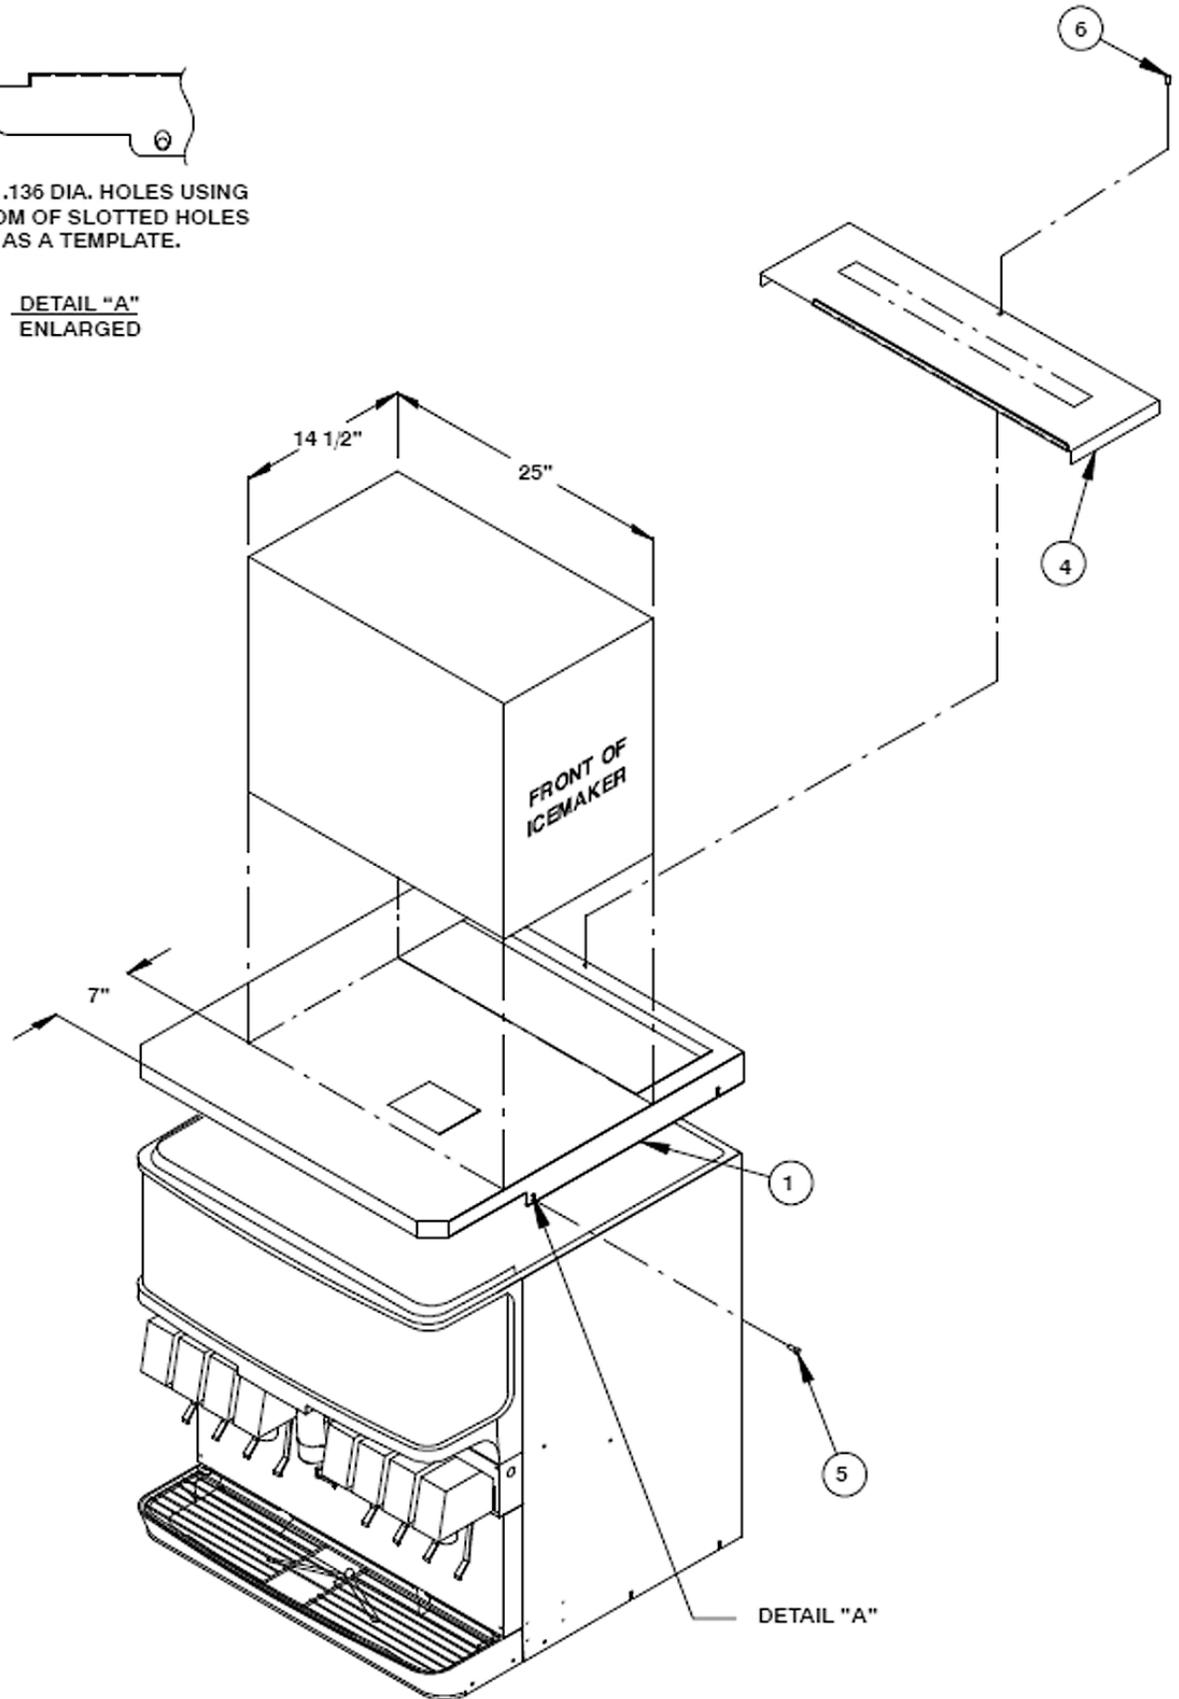

Figure 1.
5. Place the lid assembly supplied with the kit on top of the dispenser and position it flush with the back and sides of the dispenser as shown in Figure 1.
6. Using the slotted holes in the lid as a template, drill four 0.136" diameter (#29 drill size) holes at the bottom of the slots (see Figure 1, detail A) into the dispenser cabinet. Use care not to drill into the ice storage hopper. Fasten the cover to the dispenser with four #10 sheet metal screws, two on each side.